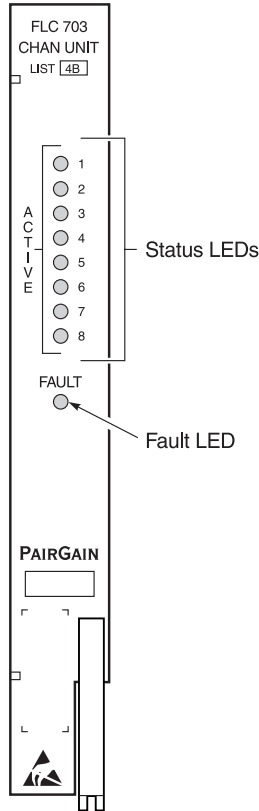

Figure 1. FLC-703 Front Panel
2.1 **Figure 1 shows the FLC-703 front panel.** Table 1 lists the different states and indications for the FLC-703 Channel Unit front panel LEDs.